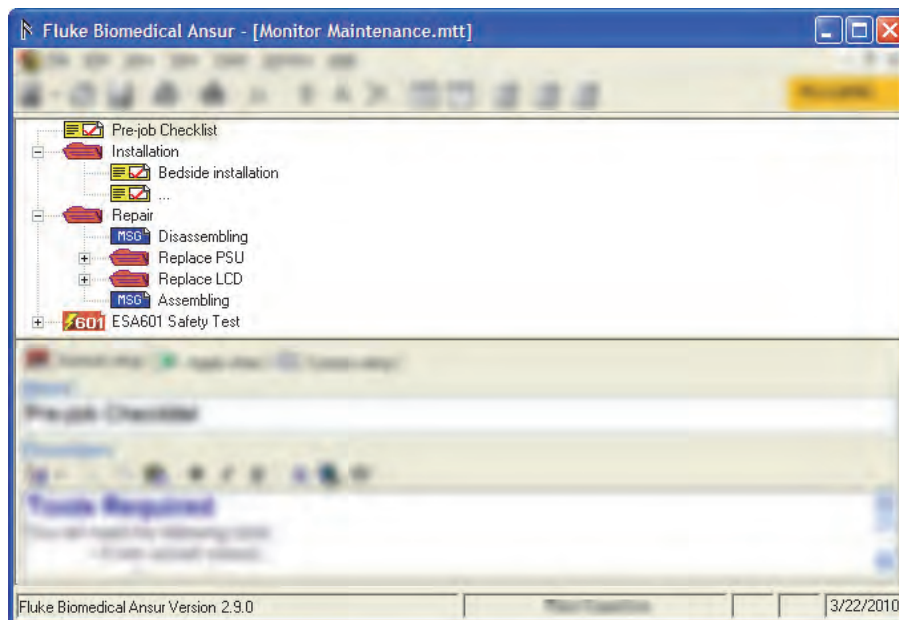
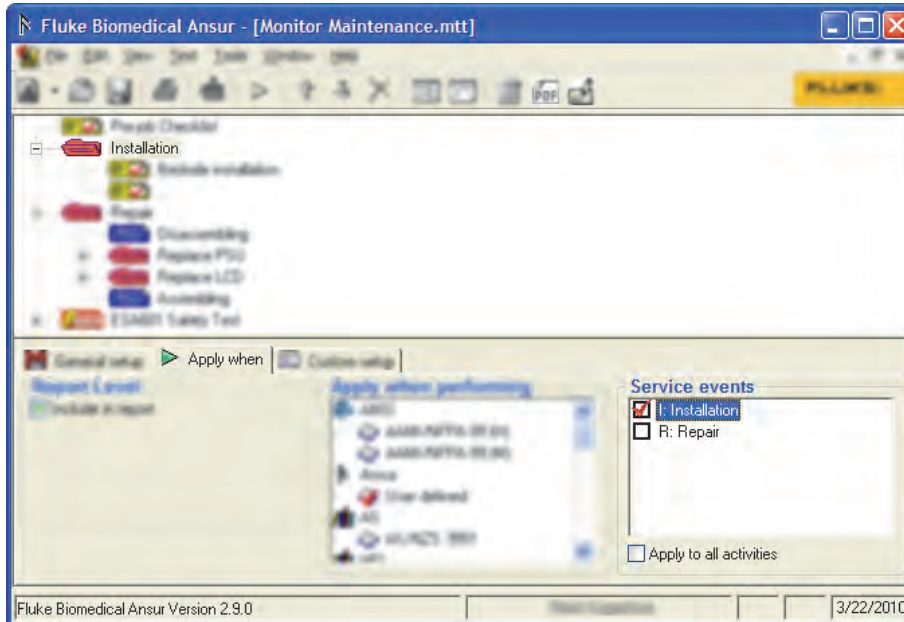

Figure 3-61. Sample Template for Monitor Maintenance
Figure 3-66. Assigning Service Events
1. Create a test template and add visual tests and safety tests to meet the needs for service procedures and safety testing. Figure 3-61 shows an example template with the Ansur explorer hidden.
- To assign tests to a service event, click the test element named **Installation** in the template window show in Figure 3-61. Then click the **Apply when** tab in the test element setup frame. The service events just created are listed in the frame named **Service events** as shown in Figure 3-66.